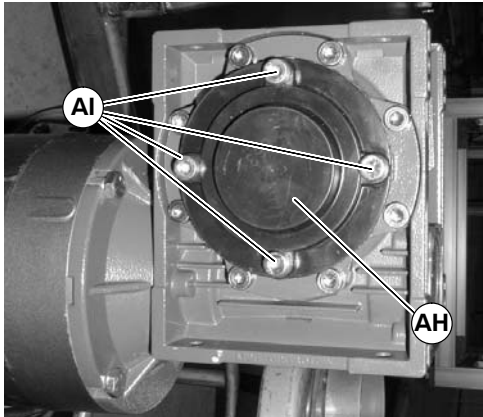

Figure 17
4. Install cover (AH of Figure 17) with four (4) screws (AI).